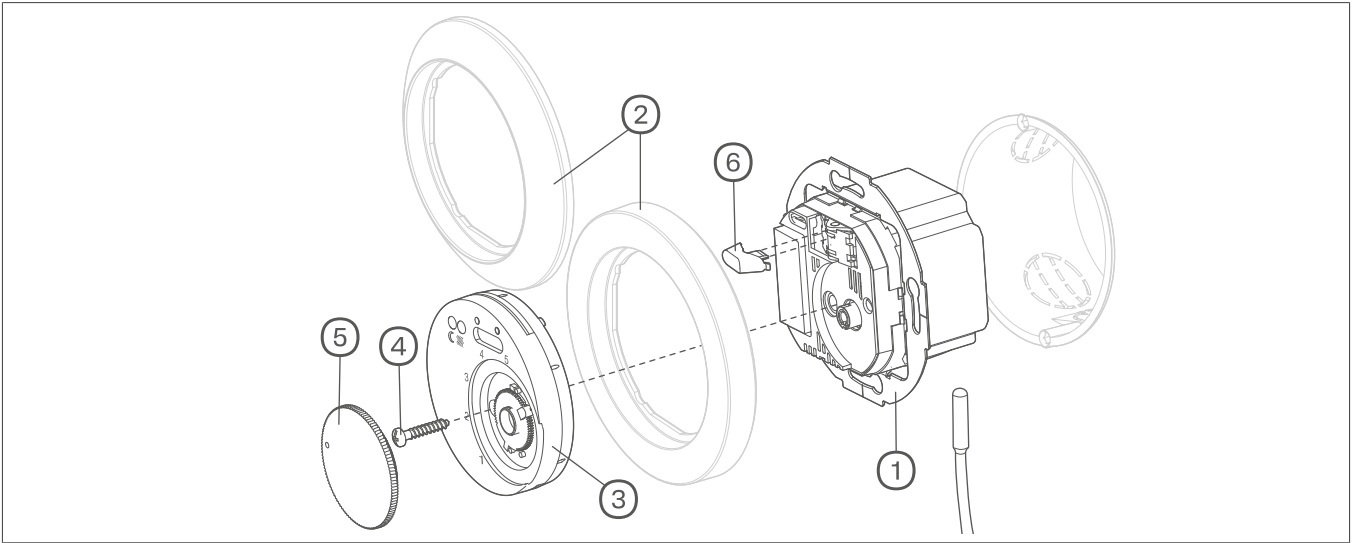

Fig. 1: Design and layout of the device
- 2 Insert the rocker (6) into the upper slot of the on/off switch (9) (Fig. 1).
- 3 Position the centre piece (3) correctly over the cover frame (2) and secure it using the fastening screw (4).
- 4 Attach the setting knob (5).